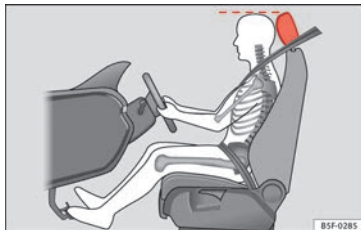

Fig. 82 Correct head restraint position for the driver.
- Adjust the head restraint so that its upper edge is at the same level as the top of your head, or as close as possible to the same level as the top of your head » **Fig. 82.**